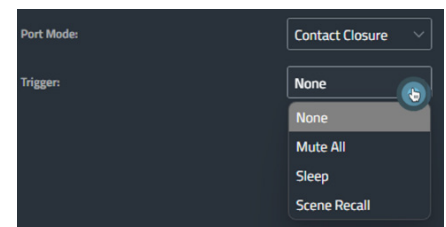

Figure 58: Contact Closure - Trigger
- Assign which function to be trigger for this Contact Closure, see **Figure 58**